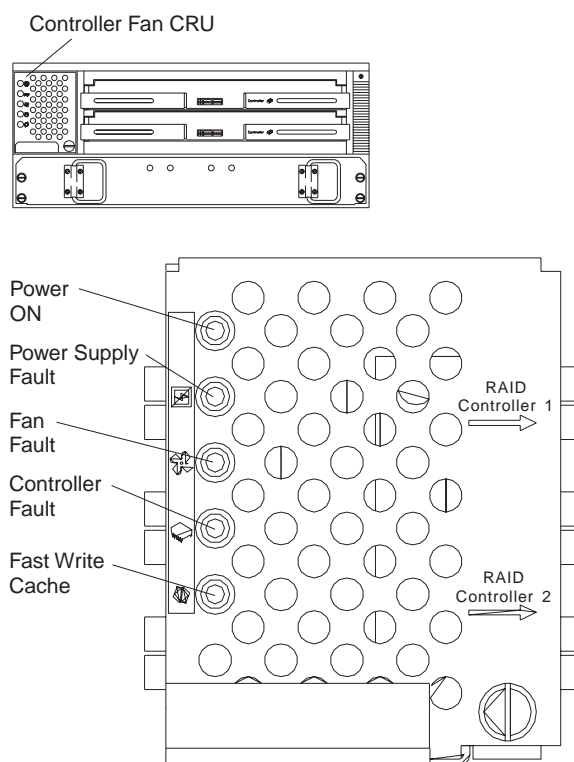

Figure 24. RAID controller fan CRU and status LEDs
5. Check the LEDs on the RAID controller fan CRU (see Figure 24 on page 41).
5. Check the LEDs (see Figure 24 on page 41).